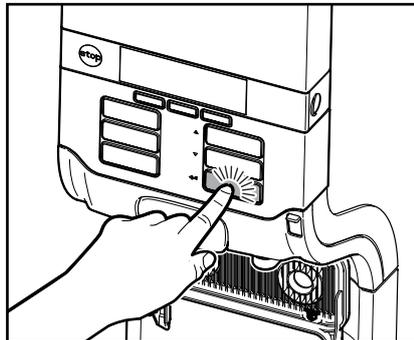

Fig. 46
4. Press the enter button ↵ to confirm the insertion of the cleaning tablet (fig. 46).